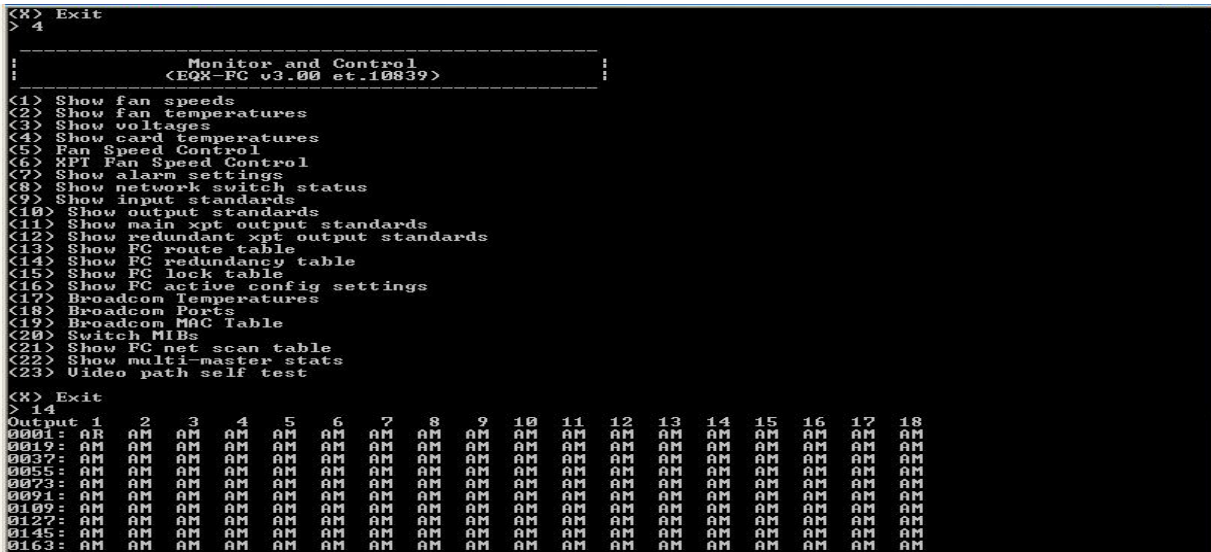

Figure 4: FC Config Menu
- Under "Main Menu" select option 4 (Monitor and Control) and then option 14(Show FC redundancy table), in that table it will show if the Outputs are on main or redundant path. Shown in Figure 4.
In Figure 4 Output one is on AR (Auto Redundant)